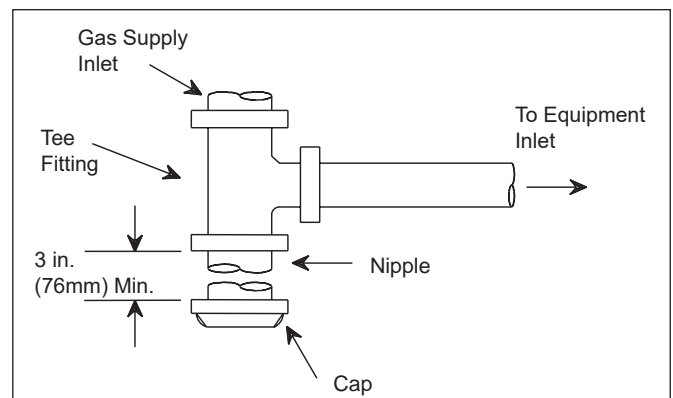

Figure 11. Typical design for a sediment trap/drip leg.
4. A sediment trap (drip leg) must be installed ahead of the gas controls (**see Figure 11**). Fit the trap with a threaded cap which can be removed for cleaning.